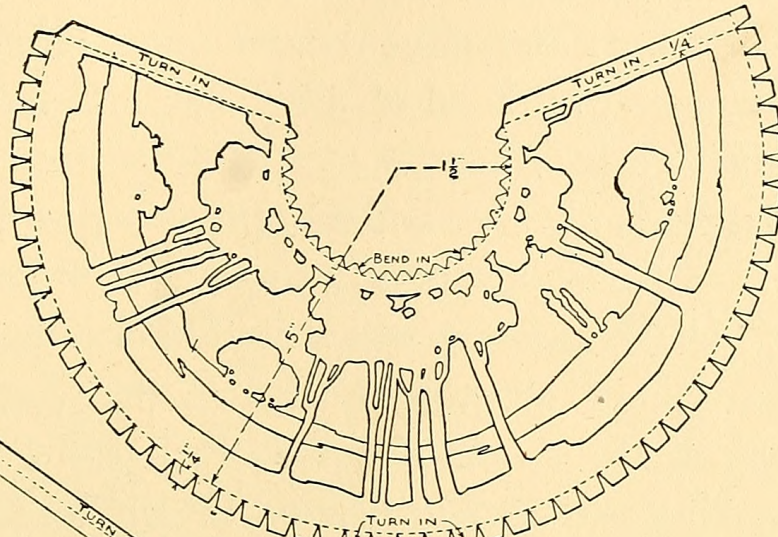
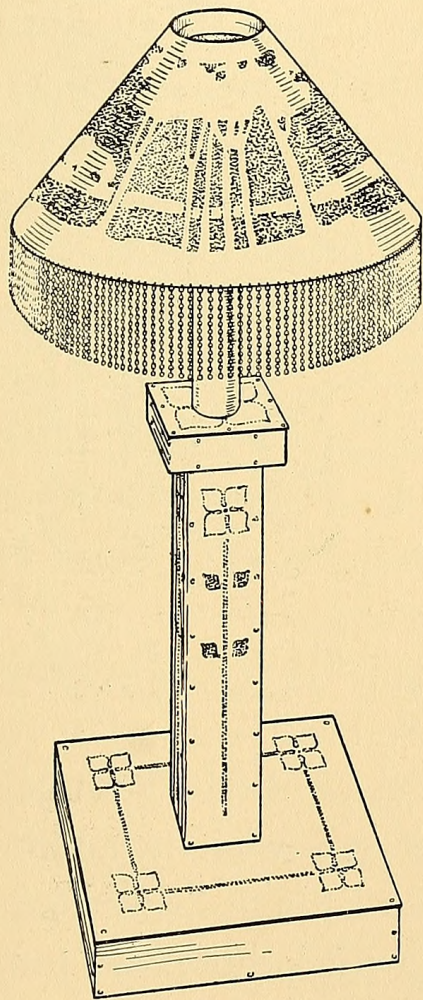

FIG. 288. — Pattern for Circular Candle-shade.
FIG. 291. — A Brass Candlestick with Circular Shade.
**The Candle-shade** on the candle-stick in Fig. 291 should be laid out by the pattern in Fig. 288. As the landscape design is very simple, it will not be necessary to enlarge it by squares. After piercing and cutting out the piece of brass, snip the top and bottom edges, cutting out small triangular pieces as shown, and then bend over the little flaps thus formed and hammer them down flat against the inside face of the shade. The edge of one end of the piece should also be turned in (see dotted line on pattern), and this should either be lapped over the other edge and the two fastened as described for the other shade, or the other edge should be folded out and one edge hooked into the other as the edges of a tin can are joined, and the two hammered down so as to make
**The Candle-stick** shown in Fig. 291
as shown in Fig. 291. After nailing the blocks together, glue a strip of felt to the bottom of the base piece.